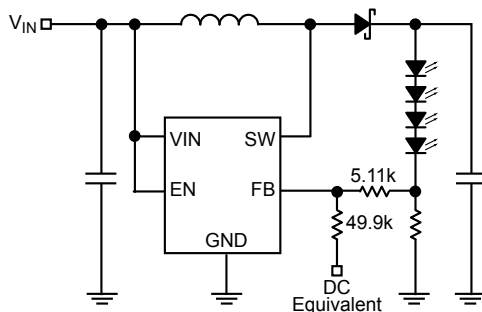

Figure 2. Continuous Dimming
2. Continuous dimming control is implemented by applying a DC control voltage to the FB pin of the MIC2287C through a series resistor as shown in Figure 2. The LED intensity (current) can be dynamically varied applying a DC voltage to the FB pin. The DC voltage can come from a DAC signal, or a filtered PWM signal. The advantage of this approach is a high frequency PWM signal (>10kHz) that can be used to control LED intensity.